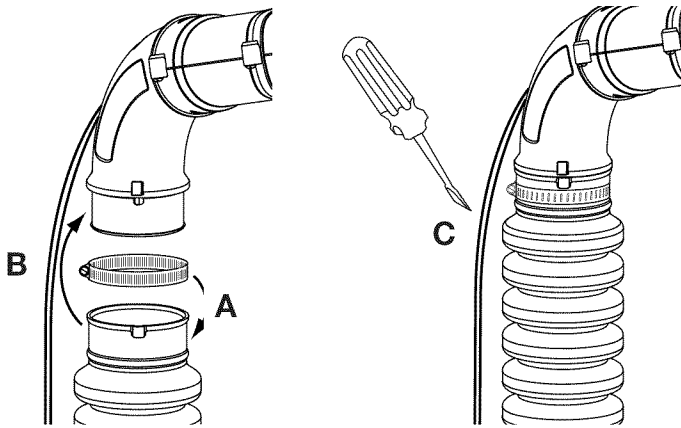

Fig. 1
2. Slide the end of the Flex Tube with the clamp on it over the elbow tube (Fig. 1, B).
3. Tighten the screw on the hose clamp to secure the Flex Tube to the elbow tube (Fig. 1, C).